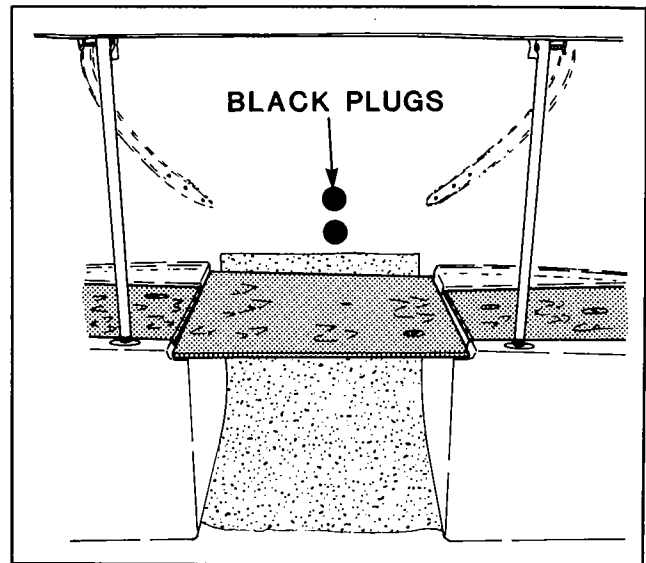

Figure 39. Black Plastic Hole Plugs
- When repairs are completed, install black plastic hole plugs (figure 39).